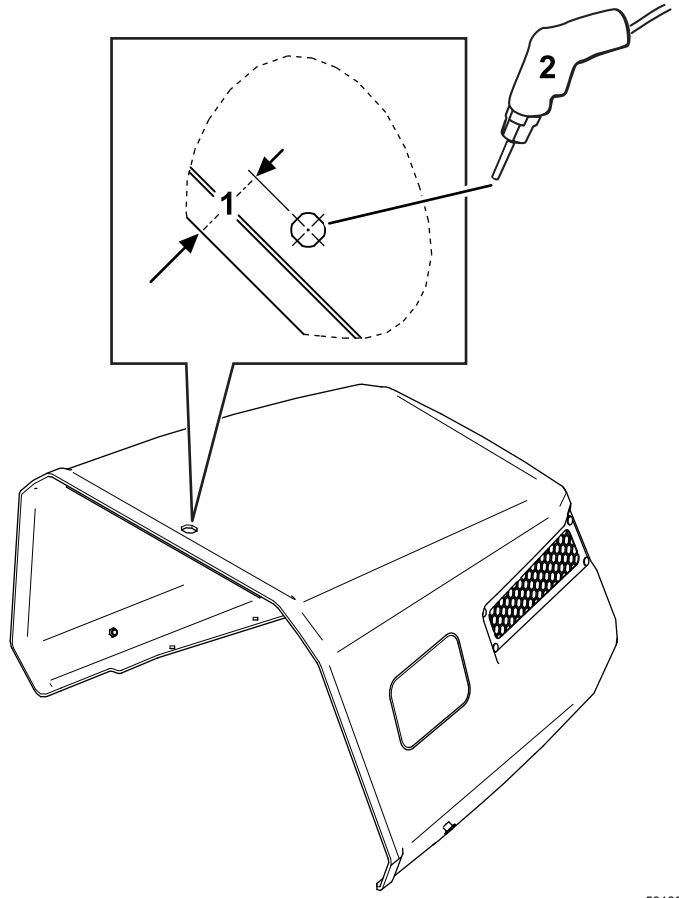

Figure 50
1. Use a drill bit (7/8 inch) to drill a hole into a centered area of the hood as shown in Figure 50.